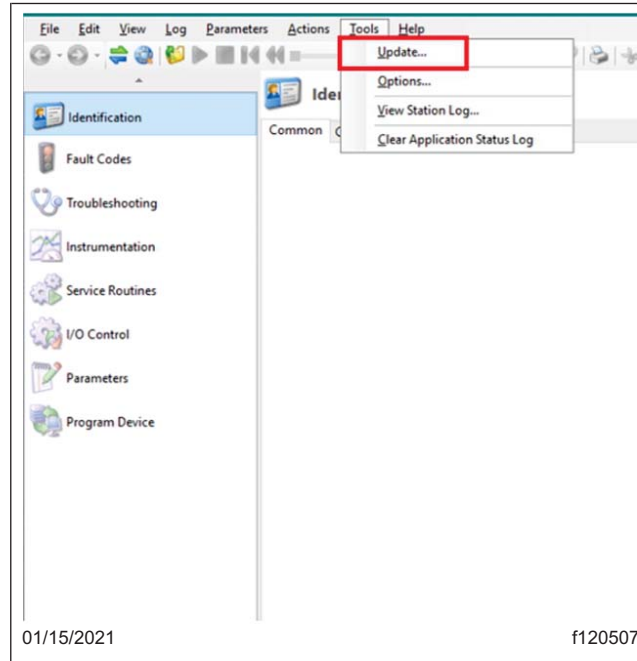

Fig. 1, Updating DiagnosticLink to the Latest Version
2. Connect the vehicle to DiagnosticLink. Ensure DiagnosticLink is updated to the latest version (8.13 at the time of publication) or newer. To update DiagnosticLink, select 'Tools' from the top menu and then select 'Update' from the dropdown menu. See Fig. 1.